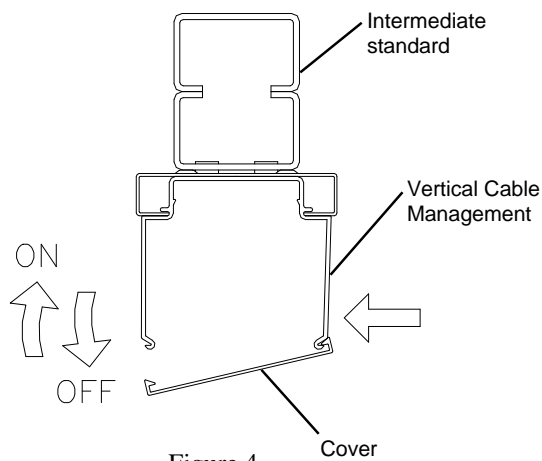

Figure 4
4. Install the **Cable Retention Clip** (provided) as shown in **figure 4**.